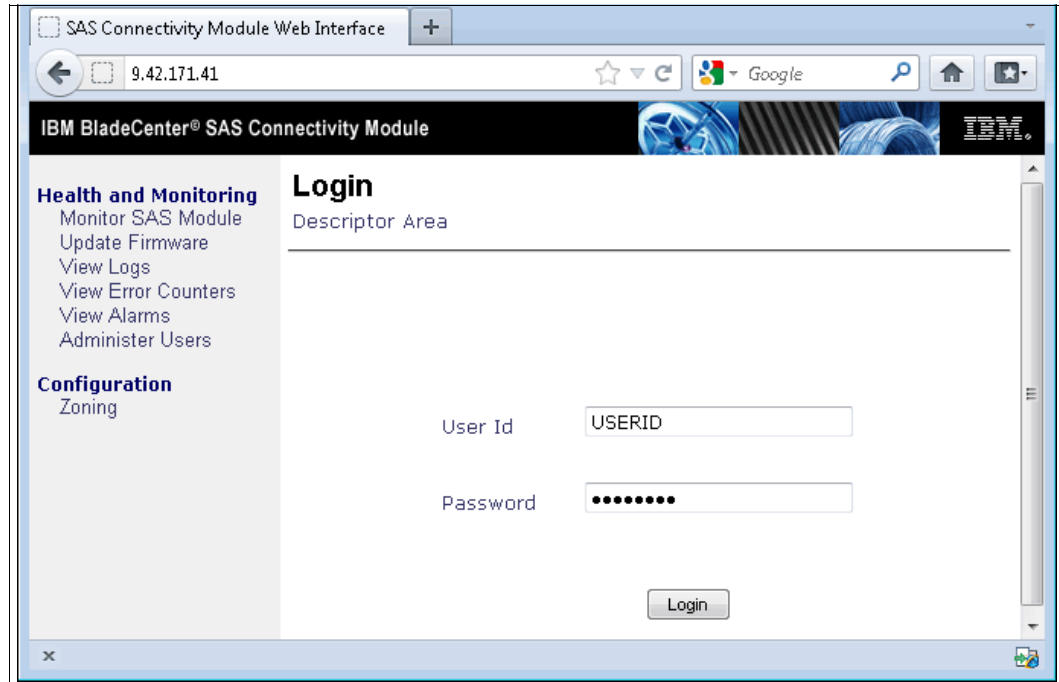

Figure 19-4 SAS Connectivity Module - Login
1. Log on to the SAS Connectivity Module by using the web interface with the IP address that is defined for the connectivity module in the BladeCenter Advance Management Module (AMM), as shown in Figure 19-4 on page 567.